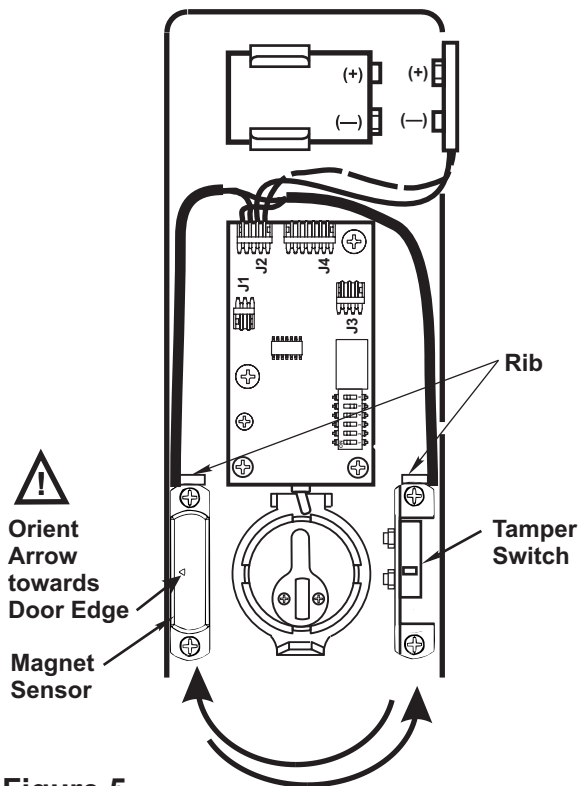
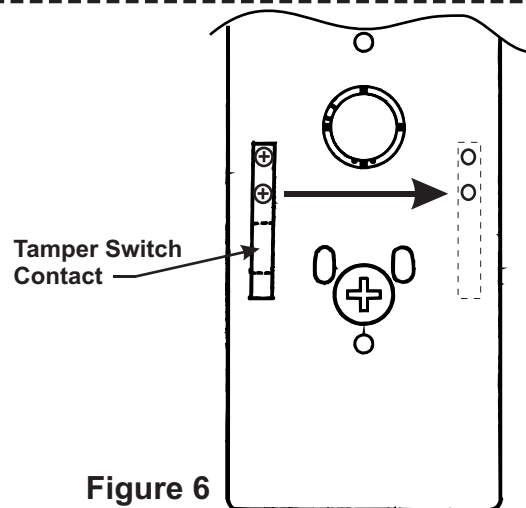

Figure 5
Figure 6
1. Remove (2) screws retaining the magnet sensor and set components aside.
2. Remove (2) screws retaining the Tamper Switch and exchange locations of both components (See Figure 5).
NOTE: a. The arrow on the magnet sensor should face outward, towards the edge of the door (See Figure 5).
4. Remove and relocate tamper switch contact from mounting base to opposite location as shown below (See Figure 6).
5. Reattach with (2) screws.
| <ul style="list-style-type: none"> Alarm sounds when keyswitch is activated. | <ul style="list-style-type: none"> Magnet Sensor is not installed correctly. Verify that the proper handing applies (See Step 3, Figure 5). Tamper Switch is not closing when Alarm Housing is installed. Make sure Switch Contact is located in the correct position (See Step 3, Figure 6). Verify that the Alarm Housing is installed correctly. J2 connector not installed, or loose. |